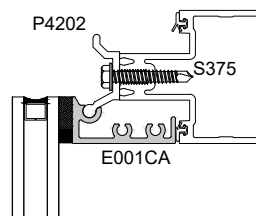

Fig. 50.2
- STEP 3: Attach head anchor P4202 to back member support framing intermediate as shown at Fig. 50.2.